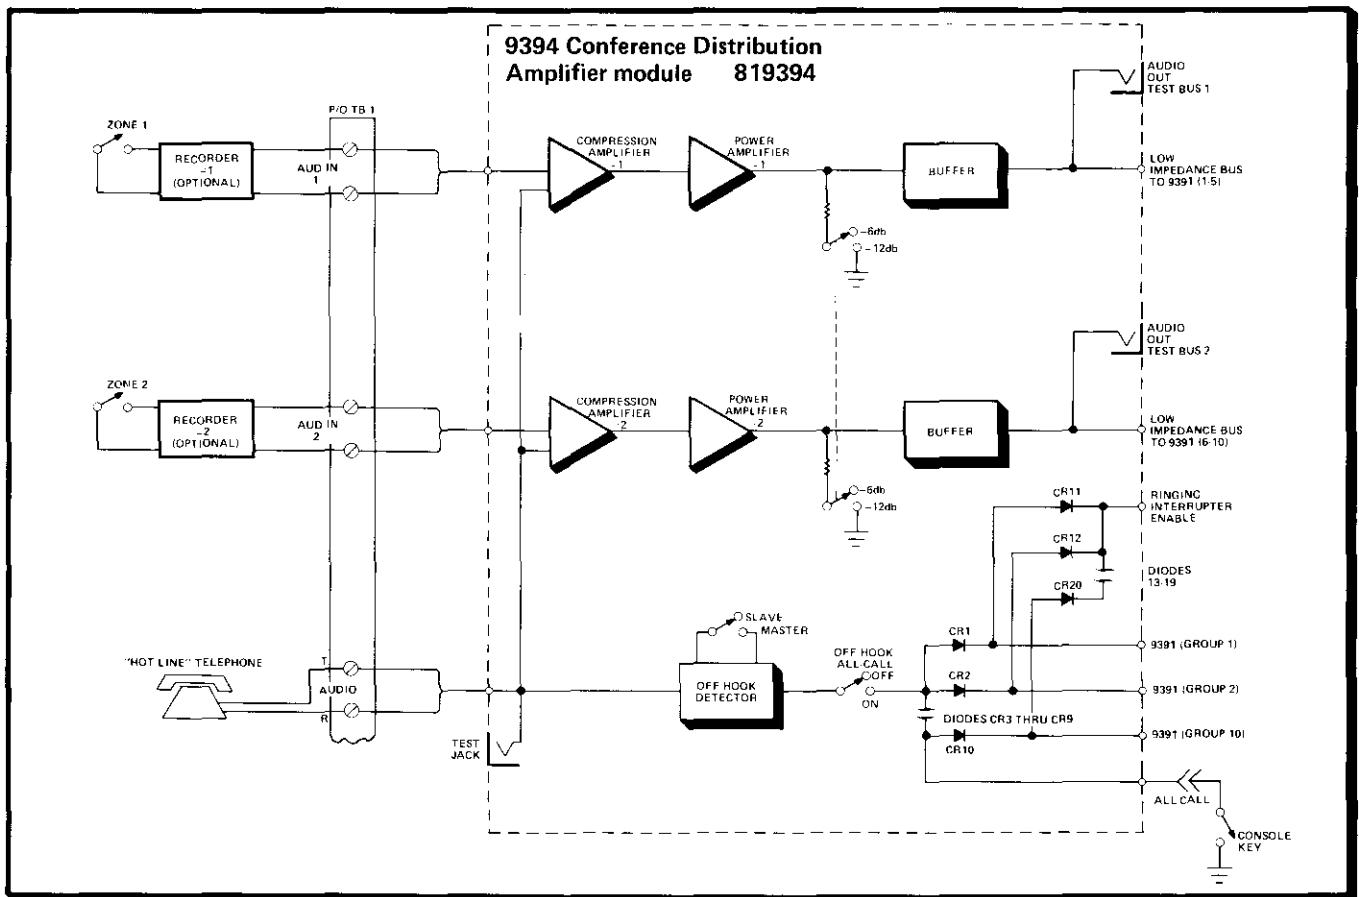

figure 5. 9394 Conference Distribution Amplifier module (819394) block diagram
2.09 The 9394 Conference Distribution Amplifier module (please refer to figure 5) provides two isolated high-impedance audio inputs for bridging two or more 293-1 Mounting Assemblies to one or more message sources. One 9394 module is required with each 293-1 Mounting Assembly. A compression amplifier is used in each audio input path to maintain constant output levels to all stations regardless of the number of off-hook stations and differing System input levels, thereby eliminating the need to perform alignment or make level adjustments. Each compression amplifier output is connected to its own distribution buffer that provides a low output impedance capable of driving five 9391 modules (50 stations for each buffer circuit).